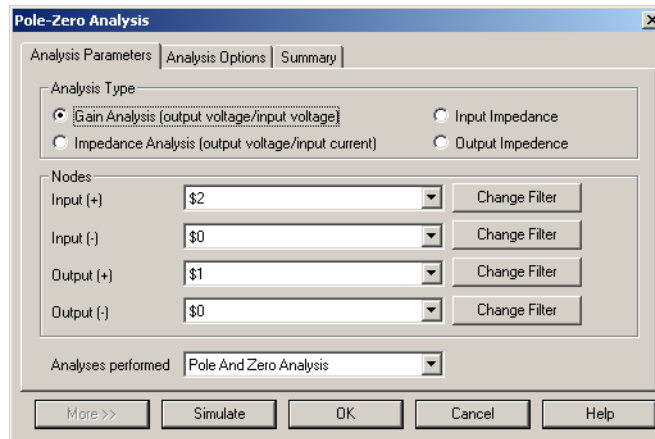

*Figure P4*
- To setup and run pole zero analysis using the circuit shown in Figure P4, we will follow the steps listed below.
This graph indicates that two poles exist. One of the poles appears in the negative region and one in the positive region of the s-plane. Because one of the poles exists on the positive region of the s-plane, the stability of this circuit (figure P4) is poor according to figure P3.